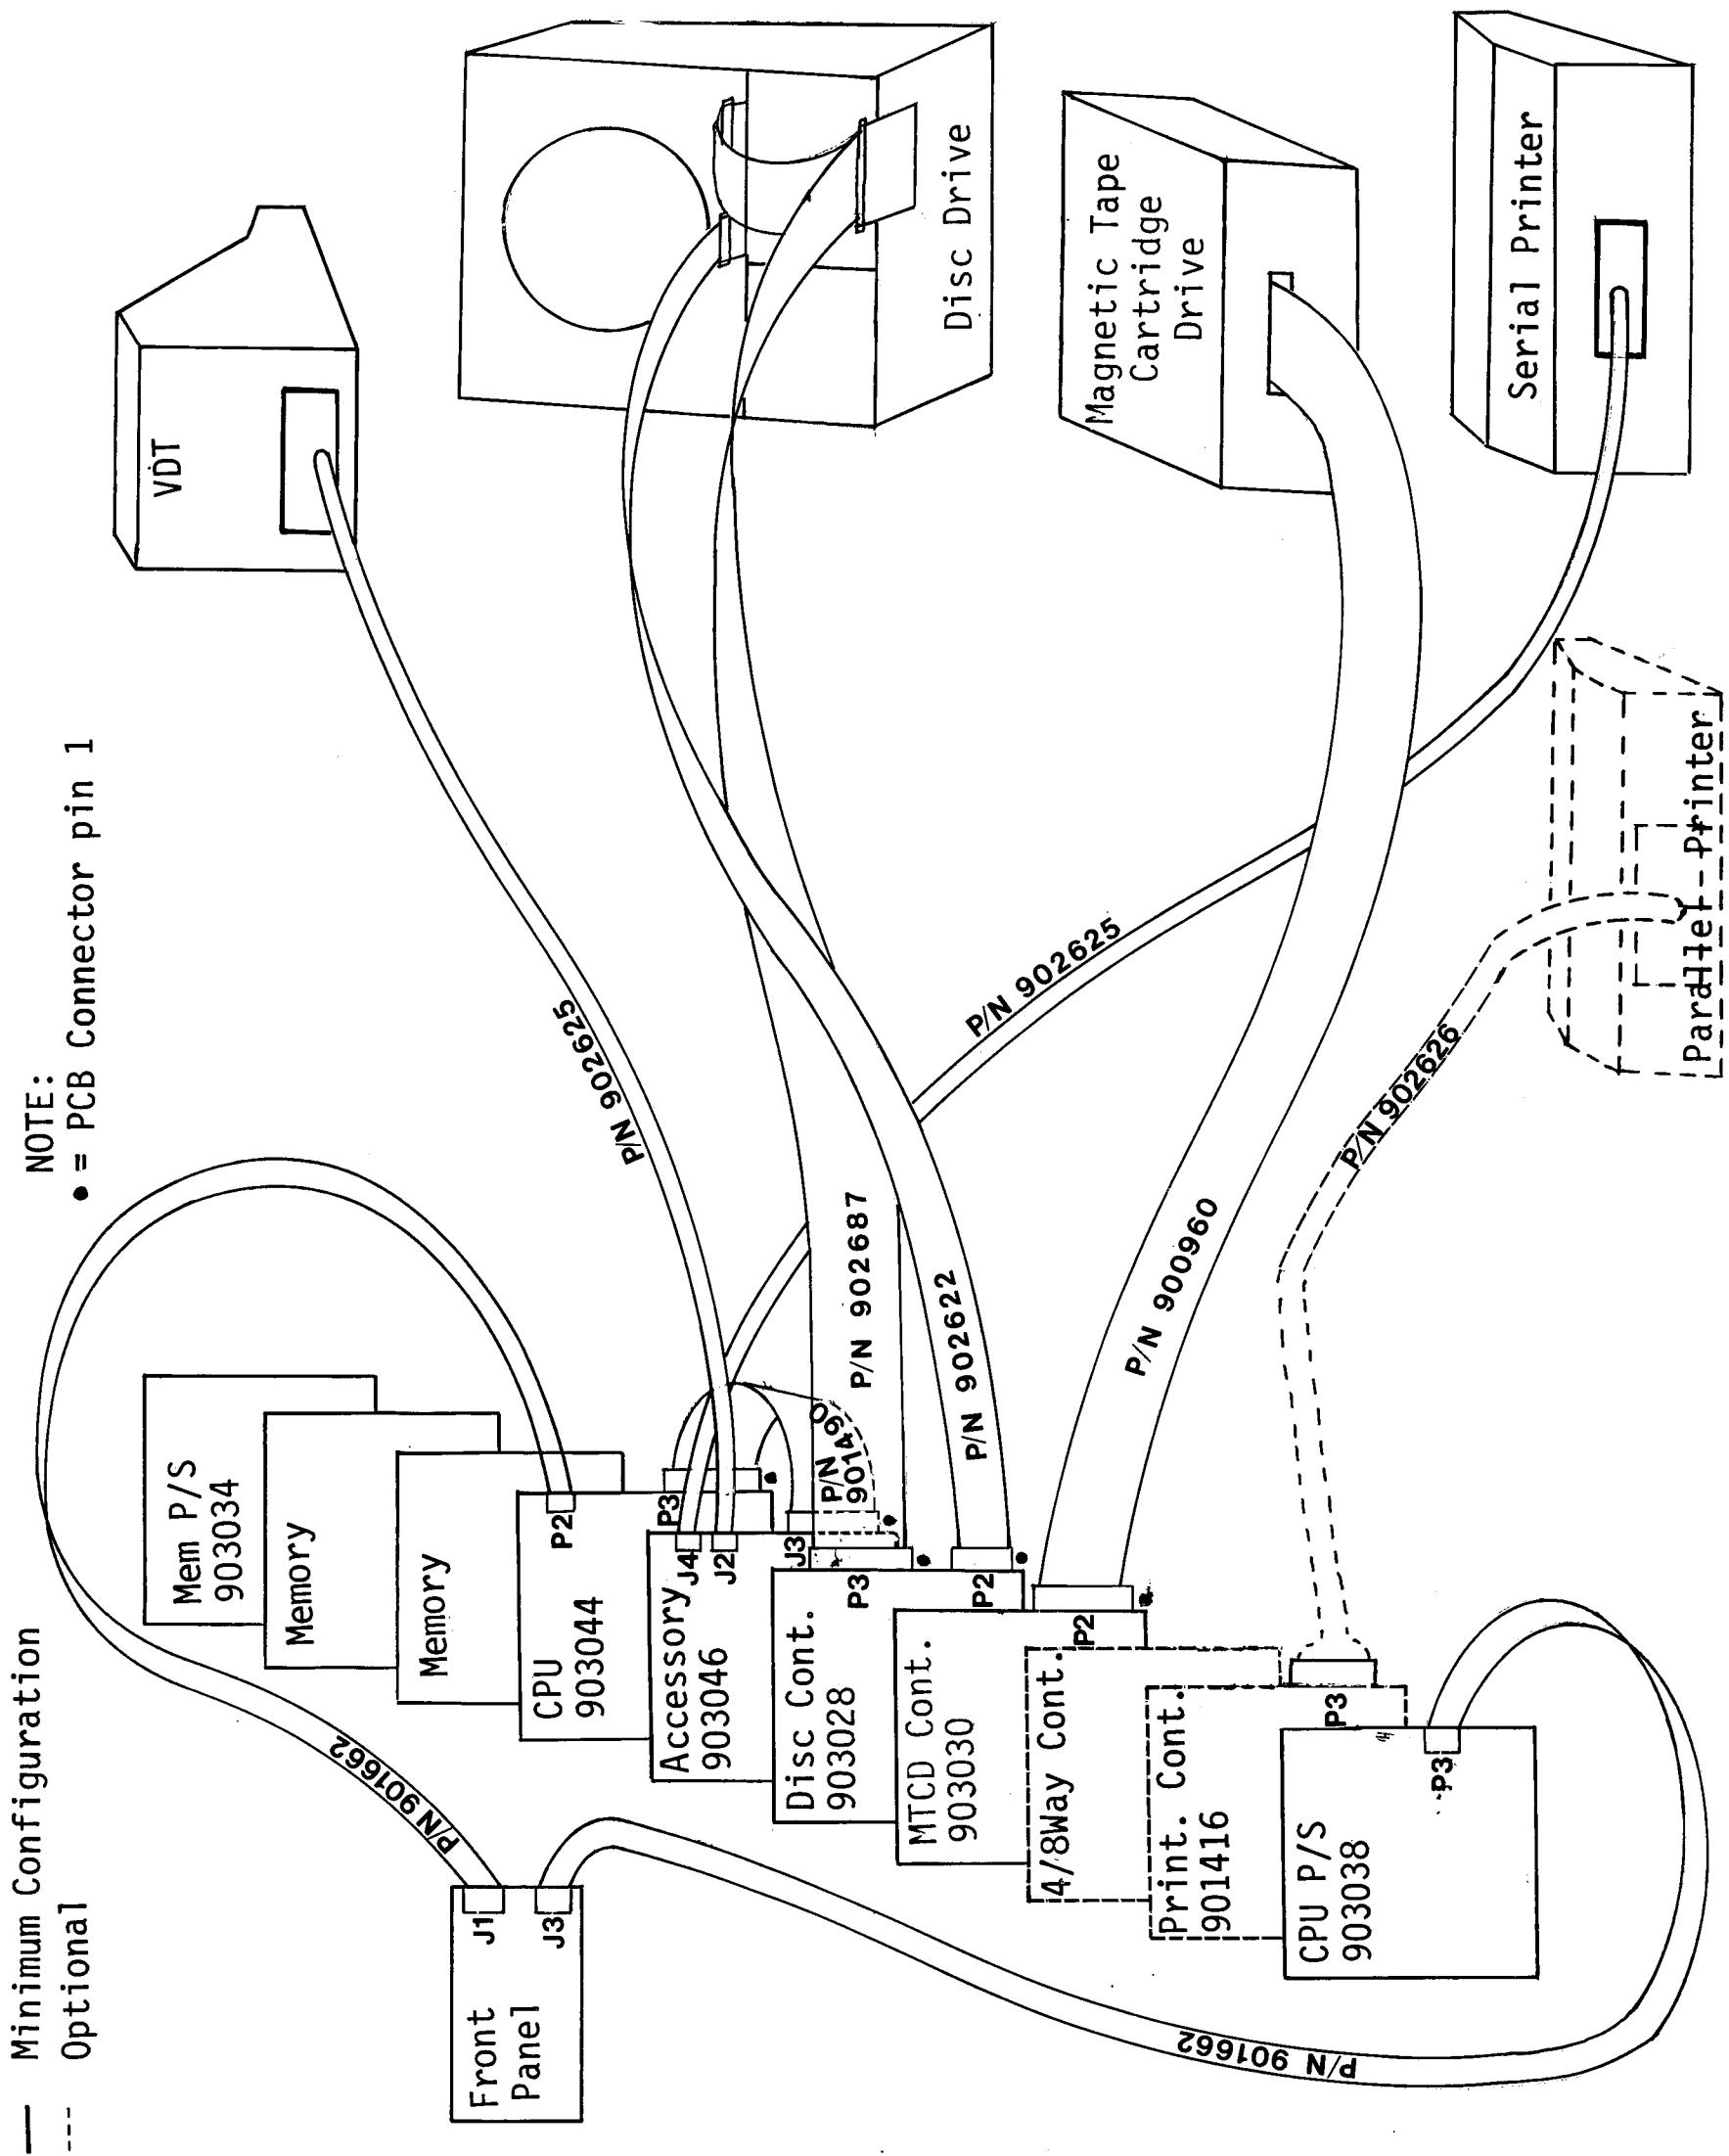

Figure 2-9. System Cables
3. Connect the two front panel cables (10 conductor ribbon cable P/N 901662) as shown in Figure 2-9.
2. Install all cables as listed in Table 2-7. The location of connectors within the system are identified in Figure 2-9.
NOTE: Figure 2-9 identifies the location of connectors listed above.